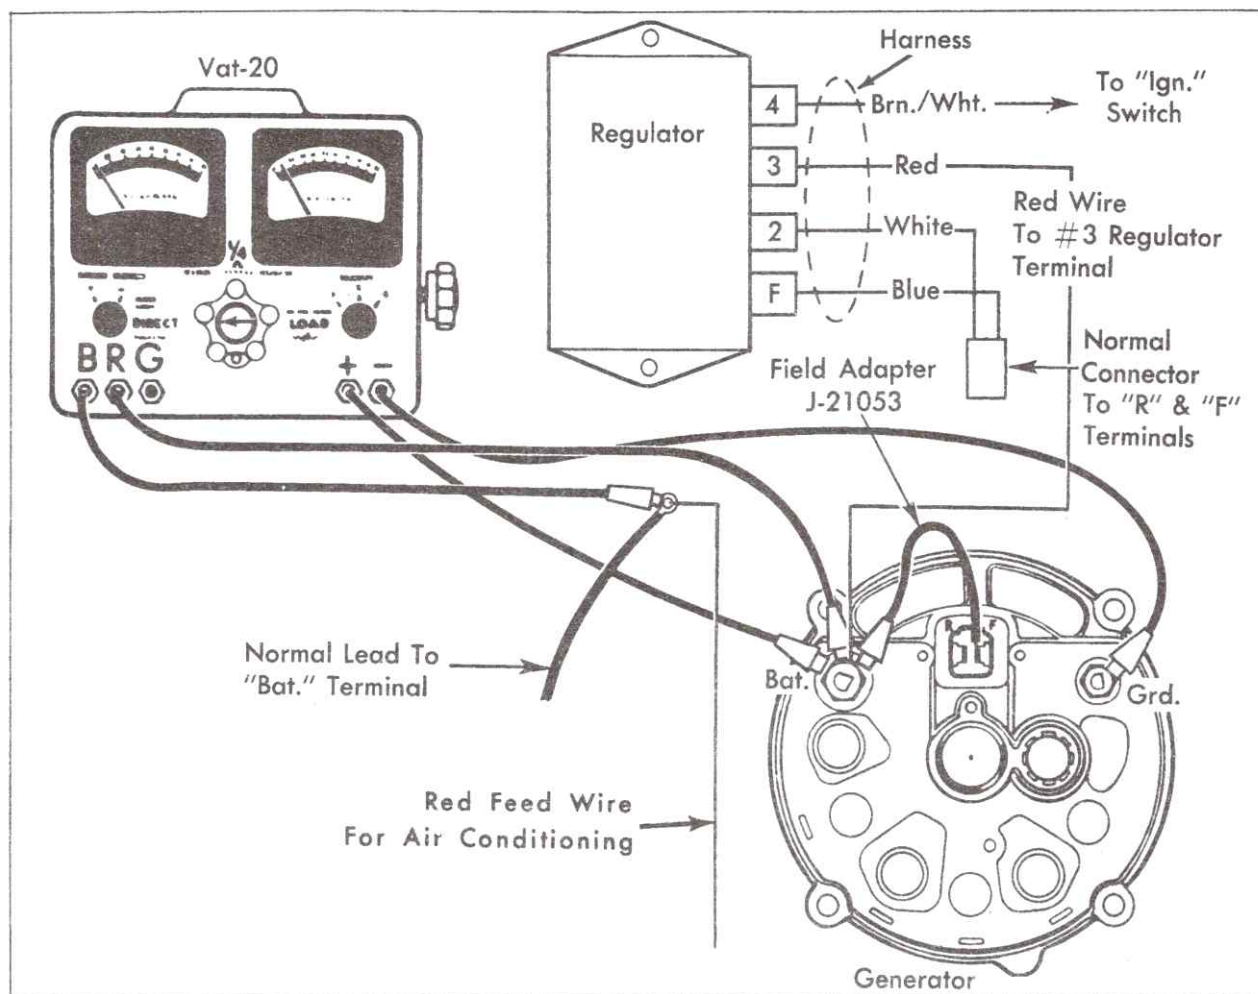

Fig. 6-34 Generator Output Test Leads
3. Connect ammeter between disconnected lead and "BAT" terminal of generator (Fig. 6-34).
4. Connect positive lead of voltmeter to "BAT" terminal of generator and negative lead to ground, Fig. 6-34.
5. Remove wiring connector from back of generator, Fig. 6-34.
6. Connect jumper wire J-21053 from "BAT" terminal of generator to "F" terminal on back of generator, Fig. 6-34.